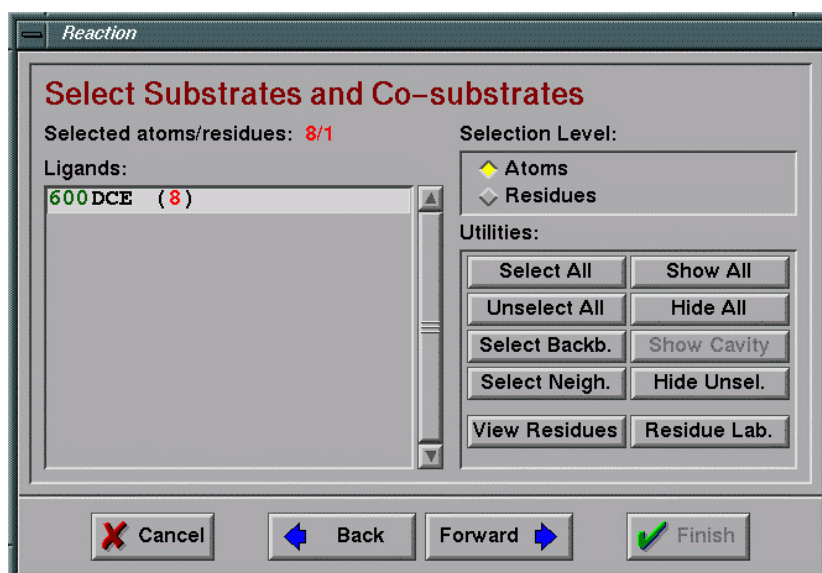

Fig 13.12 Window for selection of substrate and co-substrate
- 8) Select the substrates or co-substrates for the reaction (**Fig 13.12**). They will become a part of the active site model and will be included in the calculation. Selection can be achieved in several different ways. The molecule can be selected from *Ligands* list containing recognized “hetero-residues”, i.e. listed in PDB file as HETATM. You can also open the list of residues by checking the button *Show Residue List* and choose any other hetero-residue by clicking on it while holding <Ctrl>.
- Check the *DCE* molecule and set it as the substrate molecule in *List of Ligands* (**Fig 13.12**).